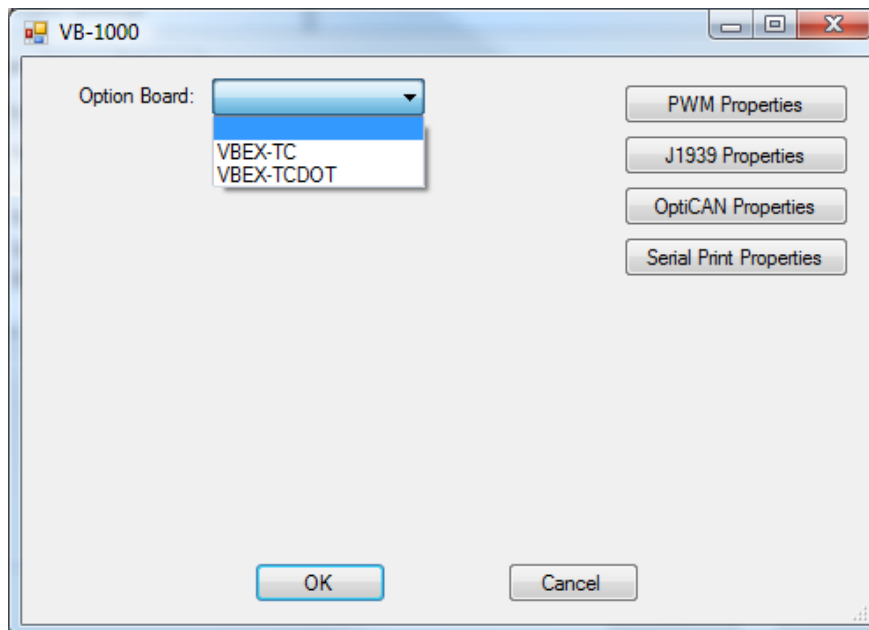

Figure 1.5 - VB-1000 Properties
3. Using the **OPTION BOARD** drop-down menu, select the VBEX-TCDOT as shown in Figure 1.5.